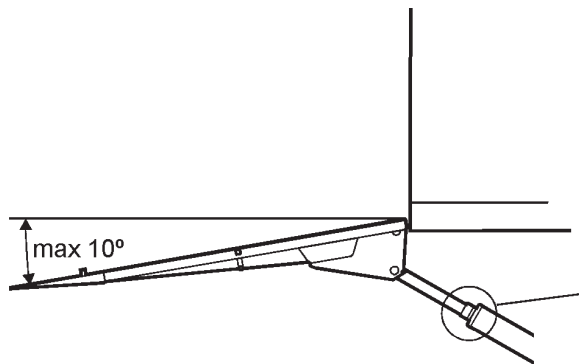

Figure 38. The tilt angle must be adjusted to max. 10° down
1. Run the lift up so that the lift is at the floor level, see Figure 38.
3. Tilt down the platform to maximum 10 degrees under horizontal. As per Figure 38.
4. Adjust the ring to the top of the cylinder (4).